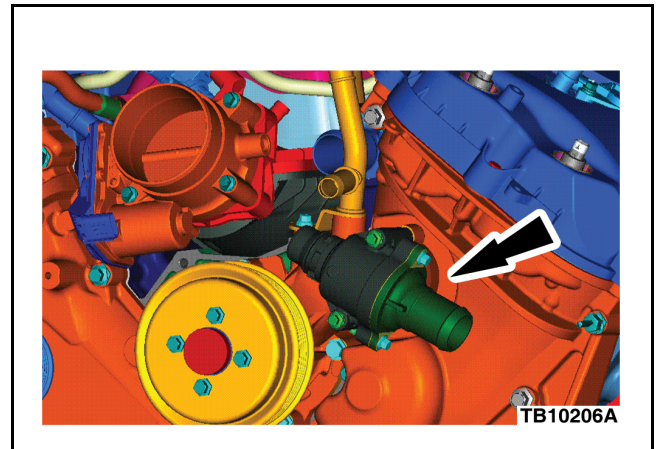

Figure 1 - Article 11-9-15
2. Using a mechanic's stethoscope or EngineEAR, evaluate area at front of left hand (driver side) cylinder head for metallic rattle or scratching type noise. Stethoscope or EngineEAR probe should be placed in the areas shown. (Figures 1 and 2)
3. Is the noise heard in the areas shown? (Figures 1 and 2)